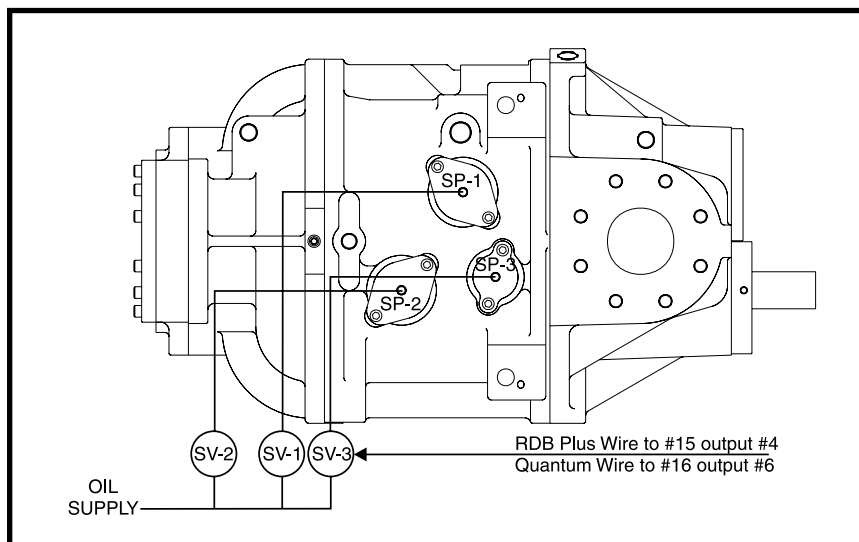

Figure 8. TDSL 283S/283L 4-Step P & I Diagram with 4-Step Machine (bottom view)
- A third solenoid valve will need to be mounted to the package. Oil supply will need to be tubed to the solenoid valve and from the solenoid valve to the third plug valve. See Figures 8 & 10.
- On an RDB Plus panel, wire the added solenoid valve to wire #15, output four. On a Quantum™ controller, wire the solenoid to wire #16, output six. See Figure 8 & 10.